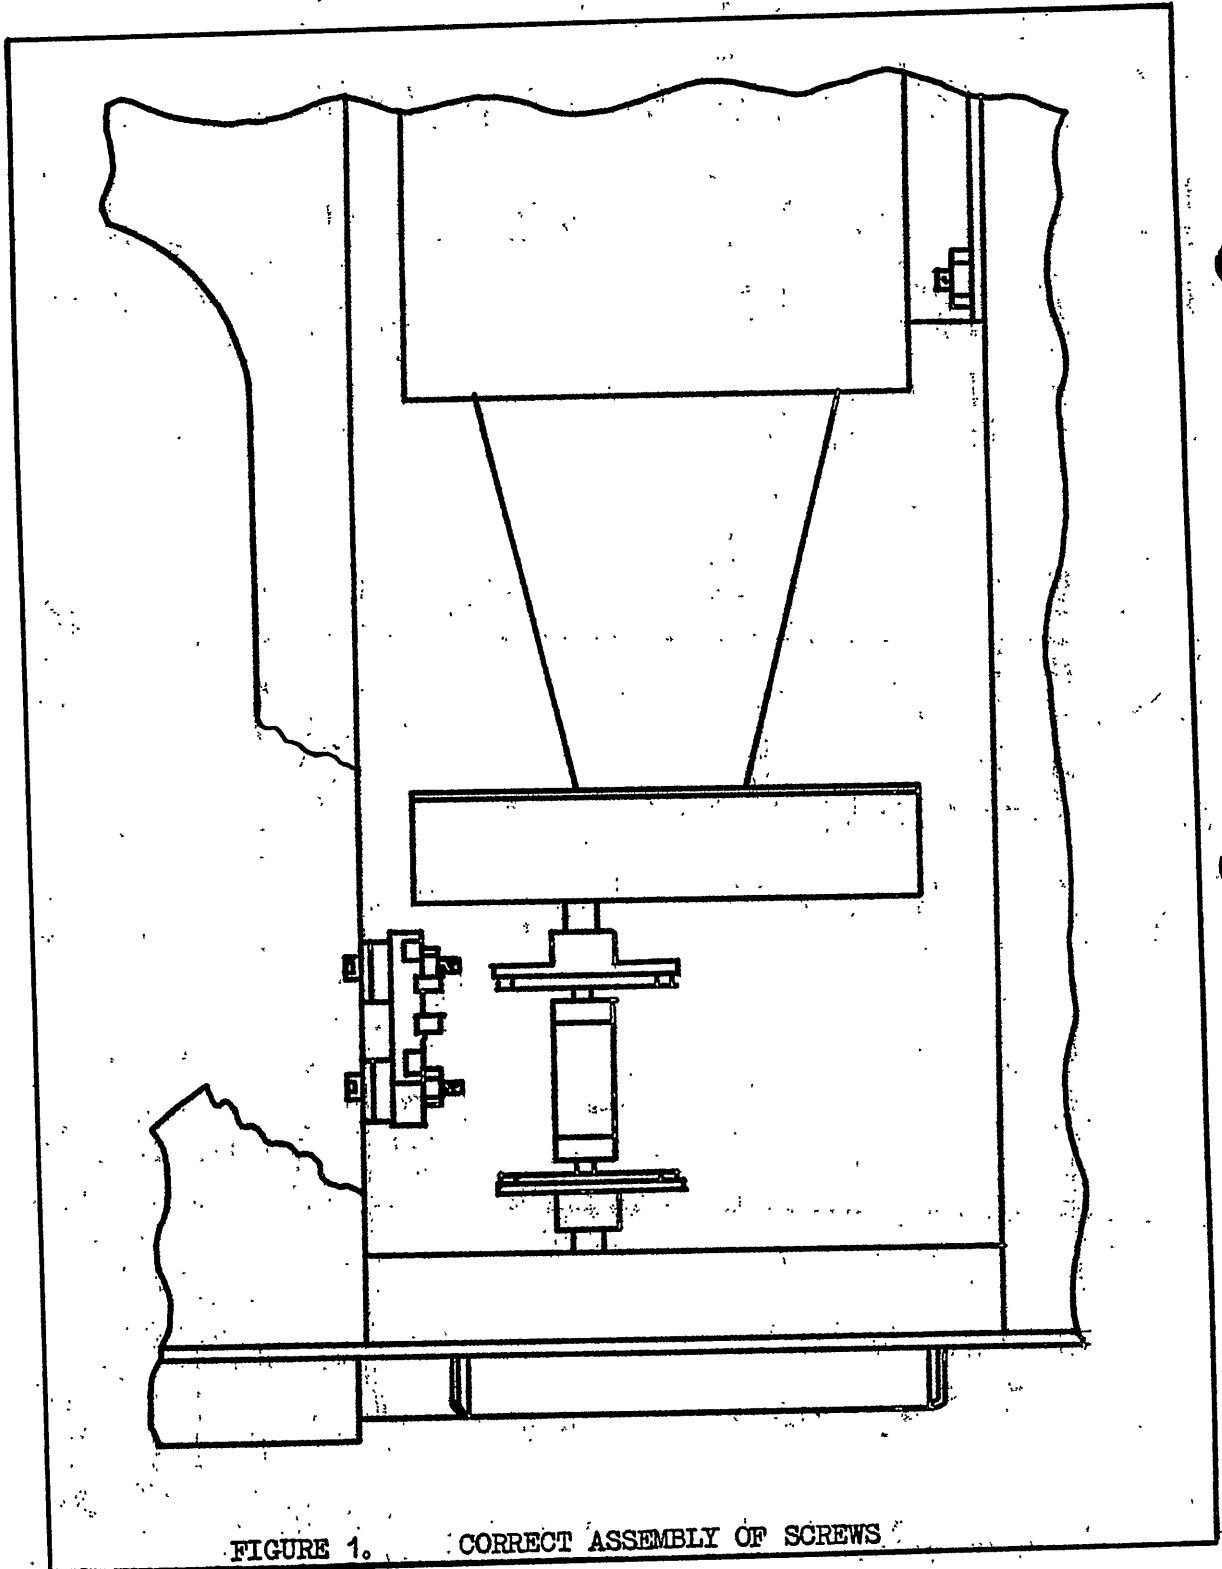

FIGURE 1. CORRECT ASSEMBLY OF SCREWS
- (c) If so remove screws and reassemble as shown in Figure 1 attached.